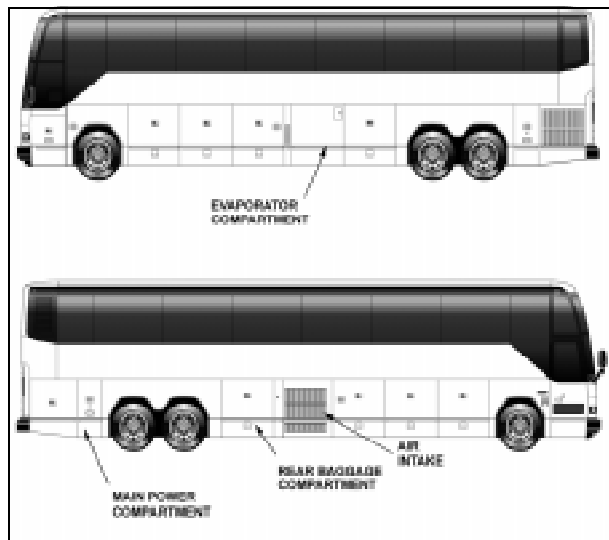

Figure 1 : location of compartments
1. Open the main power compartment door (figure 1).
16. Open the evaporator compartment door (figure 1).